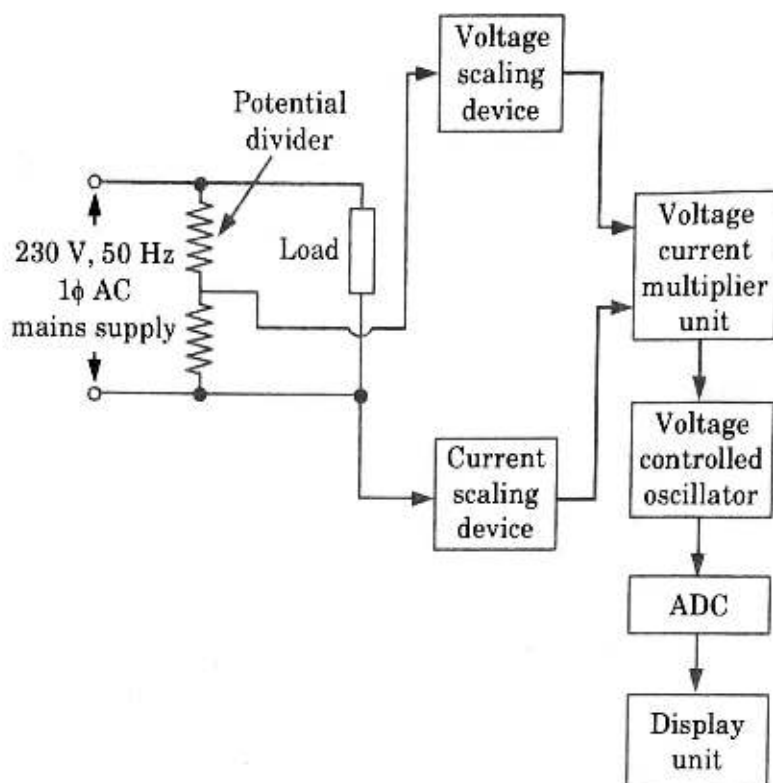

Fig. 4.2.1. Block diagram of electronic energy meter.
3. A functional block diagram of an electronic energy meter is shown in Fig. 4.2.1.